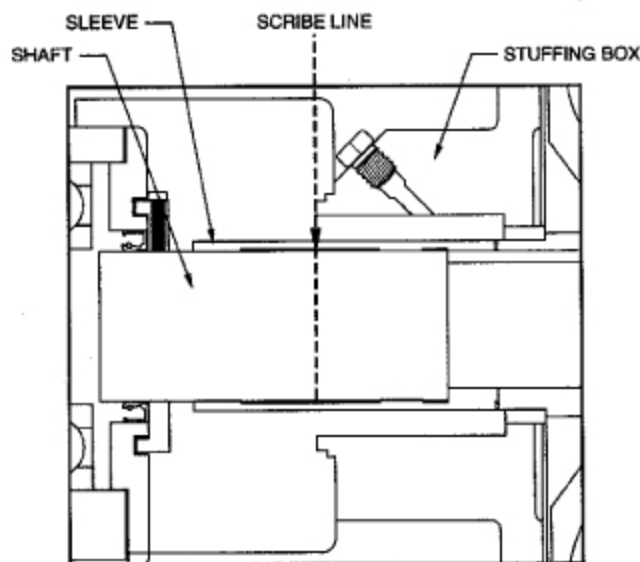

FIGURE 6
THE FOLLOWING INSTRUCTIONS REFER TO PUMPS EQUIPPED WITH MECHANICAL SEALS. See Figure 6.
- (c) Scribe the shaft sleeve at the face of the stuffing box cover. (See Figure 6)